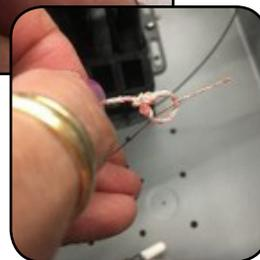

Figure 4
4. Feed the connector into the microduct, and with the drop wheel extended, carefully pull the fiber through the microduct **(Figure 4)**.